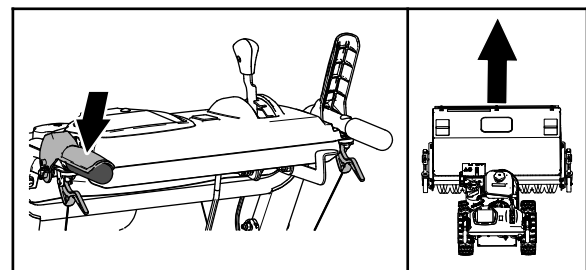

Figure 15
- To drive straight, squeeze the traction-drive lever (left) but do not squeeze the wheel-clutch levers (Figure 15).